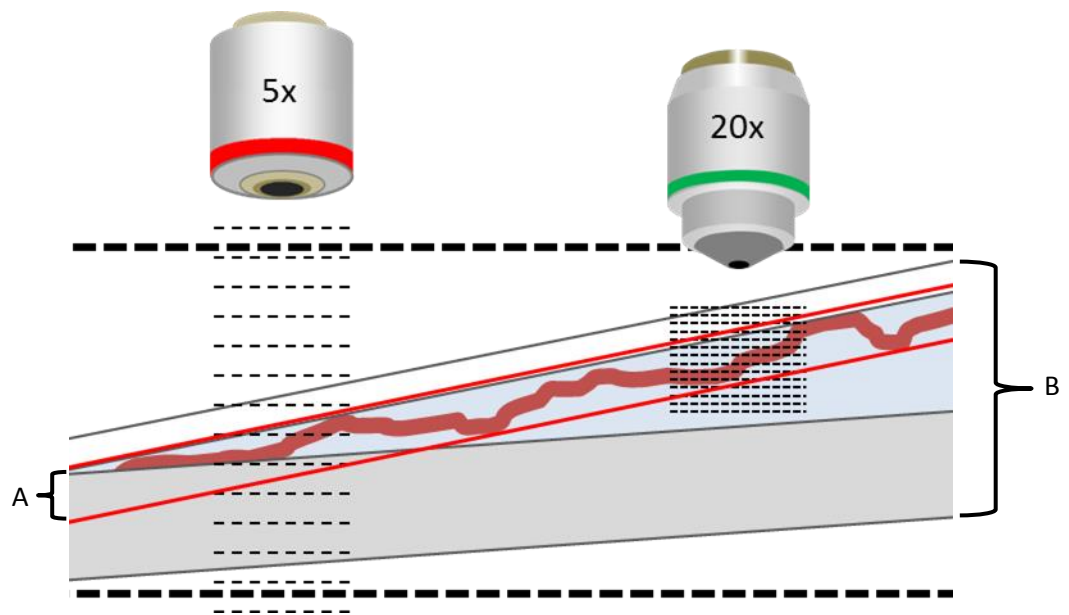

Figure 15 Schematic showing macro and micro flatness
In figure 15 (above) you can see the **macro-flatness** variation as the range between the two heavy black dotted lines (B). Tilt in the slide, cover slip, and mountant thickness, all contribute to **macro-flatness**. The specimen **micro-flatness** is shown as variations in tissue level between the two solid red lines (A).